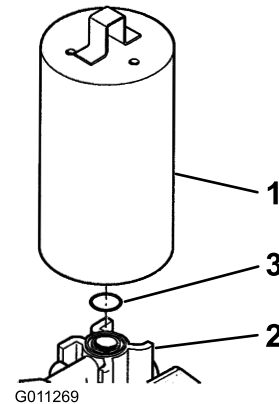

Figure 3
5. Remove the accumulator from the valve. Discard the old accumulator base O-ring seal (Figure 3).